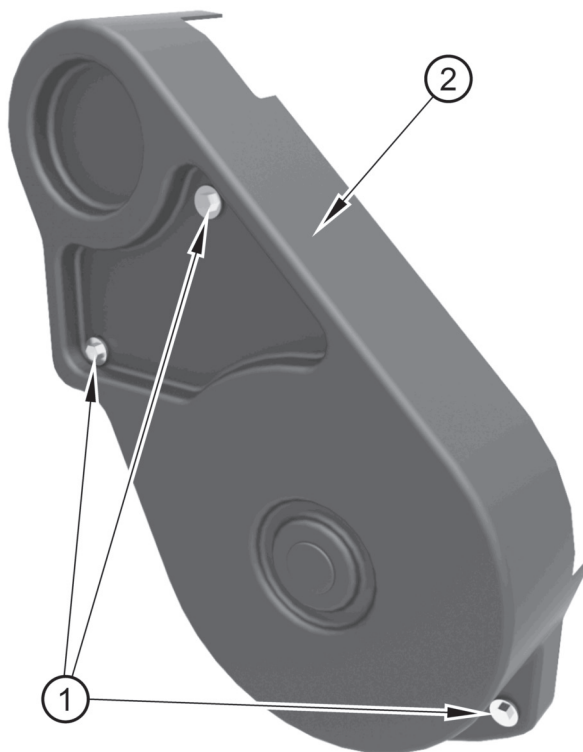

Figure 14
1. Undo the bolts (figure 14 item 1) and remove the guard (item 2).